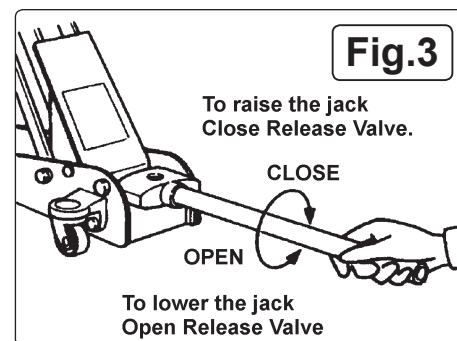

Fig.3
- 6.1.4. Turn the release valve clockwise, to the closed position (Fig.3). **DO NOT** over-tighten.